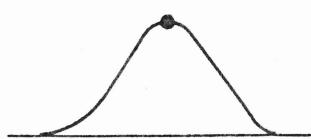
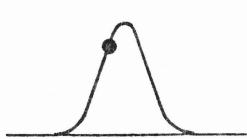

Fig. 3-4-1
Fig. 3-4-2
- (1) Rotate dial of the radio receiver under test to tune it to a desired frequency.
- (2) With the radio receiver left in the same state, apply the RF OUTPUT signal and observe the characteristic curve. Position the characteristic curve in the center of the screen by making sweep width narrow.
- (3) The characteristic curve should appear on the screen as shown in the Fig. 3-4-1 below. Now changing the setting value of the digital marker switch, bring the marker to the highest point of the characteristic curve.
- (4) Then restore the sweep width to normal by adjusting SWEEP WIDTH control.
- (5) Sometimes marker may be seen shifted from top of the characteristic curve as shown in Fig. 3-4-2.